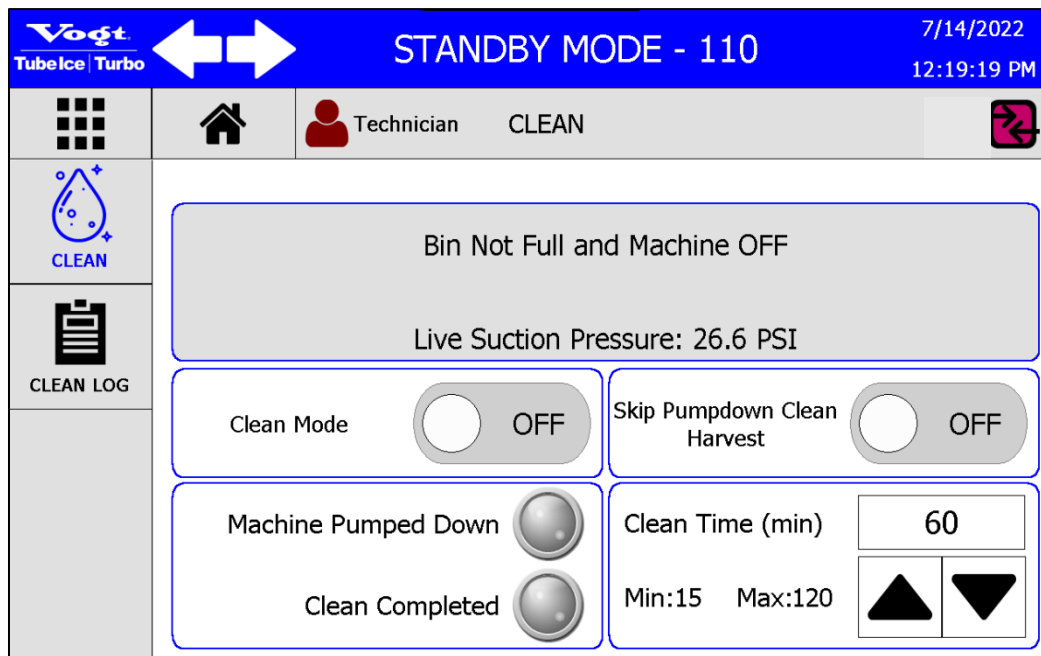

Figure 62: CLEAN Screen
2. Press the grid touch screen button  to return to the **MENU** screen. Press the **CLEAN** touch screen button to access the cleaning submenu. See Figure 62.